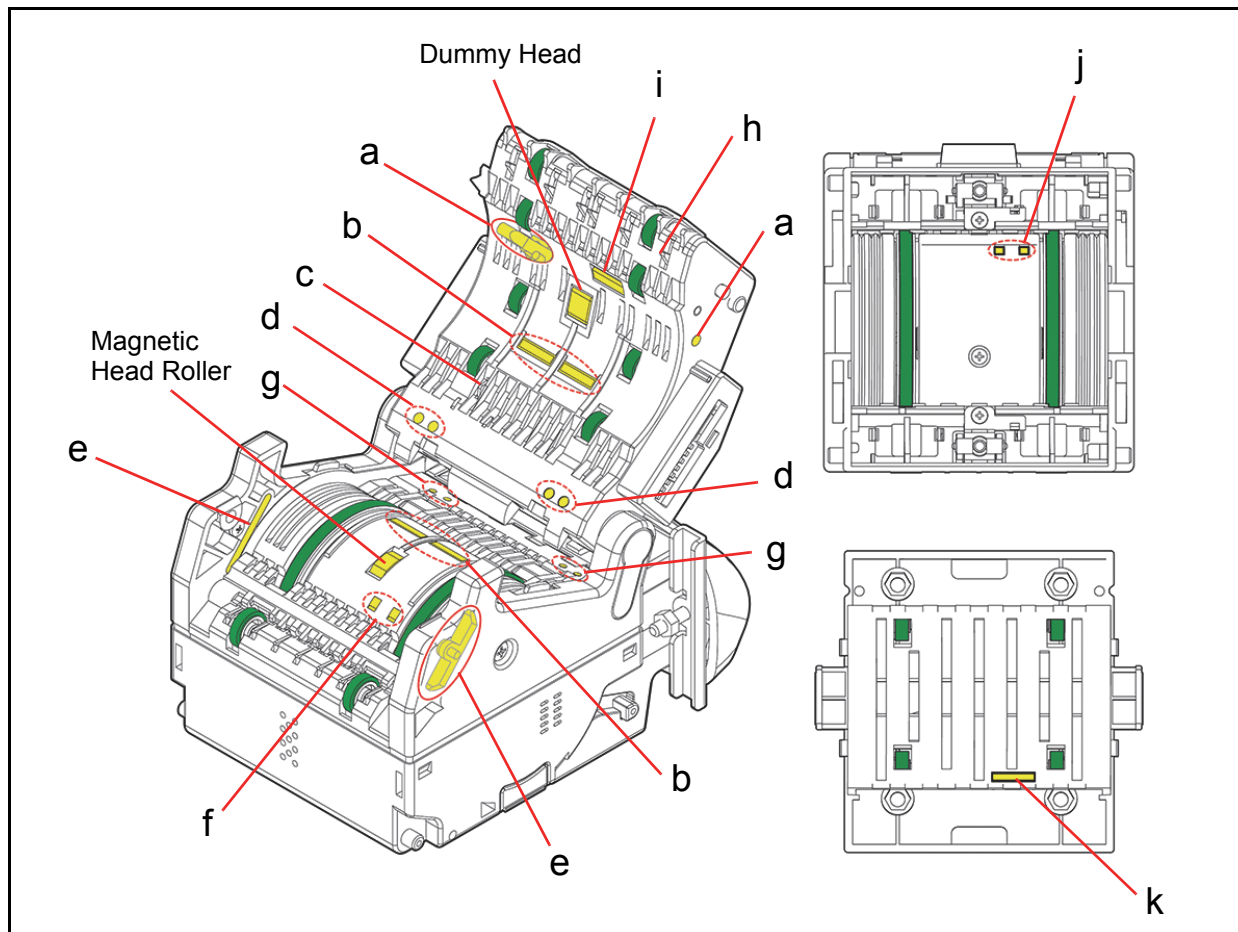

Figure 2-21 Taiko Sensor Cleaning Locations
3. Clean the appropriate path and Lens of each Sensor (See Figure 2-21 areas "a" through "k" and the corresponding descriptions listed in Table 2-9 to locate each Sensor that require cleaning).
Figure 2-21 illustrated the various Taiko Sensor cleaning locations, and Table 2-9 respectively lists the Taiko Sensor Type Cleaning Methods.
*. Wipe and clean all of the Rollers and Green Belts shown in Figure 2-21 using a soft lint-free Cloth.